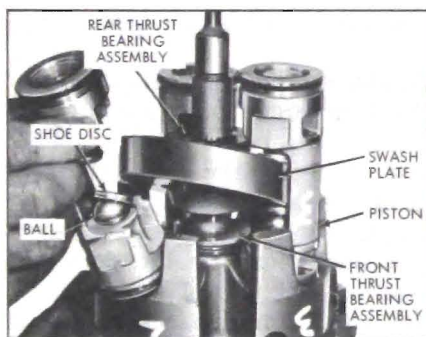

Figure 11-122—Removing Piston Assembly
7. Rotate shaft until a piston is at its highest point. Push up on shaft and remove one piston assembly at a time. See Figure 11-122. Place parts in parts tray to keep them separated.